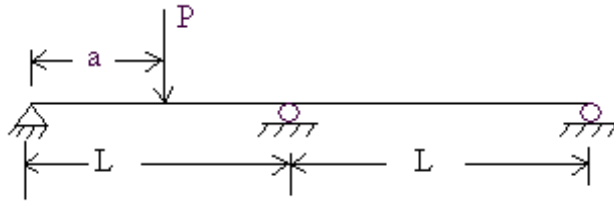

Figure 4
5. For the indeterminate beam as shown in figure4, find the redundant reaction. [16]